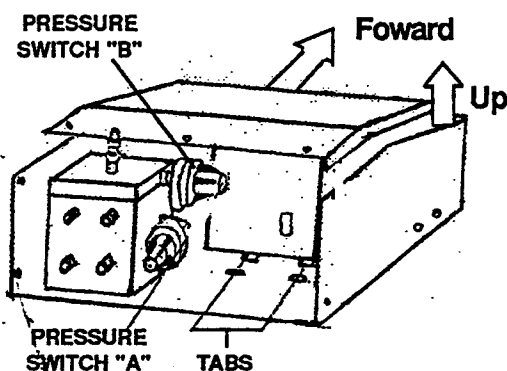

FIGURE 2
1. Clamp instrument to top of recovery cart by securely fastening "U" shaped clamps around recovery cart handle bars as shown in Figure 2.
3. Remove eight (8) Phillip's head screws from back cover of instrument.
- 2a. Carefully lift the back of the top cover just enough to clear the tabs from the slots in the bottom of the case (See Fig. 2) If necessary, use a flat head screwdriver to gently pry up the case top.
- 2b. Carefully, slide the top cover forward (as shown in Fig. 2) just enough to allow access to the end of pressure switch "B".